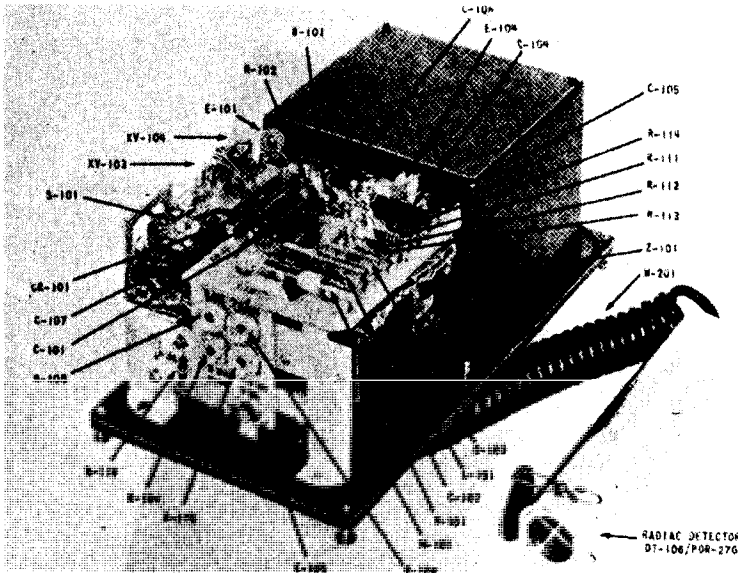

Figure 1-5. Radiacmeter, Right Side and Rear
Mounted on the panel are: a four range indicating meter, a range switch, a push button switch assembly for the meter light, and a headset jack. Mounted to the underside of the panel (figures 1-5 and 1-6) are the electronic elements of the equipment including a plug-in unit, **Z-101**, (figure 1-5) containing three subminiature tubes and their associated circuit elements.
c. RADIAC DETECTOR DT-106/PDR-27G (See figure 1-5.) – The radiac detector is a probe consisting of a Navy Type BS- 1 G-M tube contained in a cylindrical metal housing. At one end, the housing is closed by a threaded ring which secures a packing gland for the connection cable; at the other end a threaded ring secures the body of the G- M tube leaving the mica window exposed. The G-M tube is supported by a rubber gasket at the mica window end and further supported inside the housing by a spring mounting cylinder, 0208. Electrical connection to the tube is made by a kinkproof flexible cable which passes through the waterproof packing gland in the threaded plug at the end of the housing. A spring-retained metal shield covers the mica window of the G-M tube. When the shield is over the window, beta radiations are prevented from entering the tube; the shield may be swung aside when beta-plus-gamma radiations are to be detected. A metal guard is secured directly over the window.